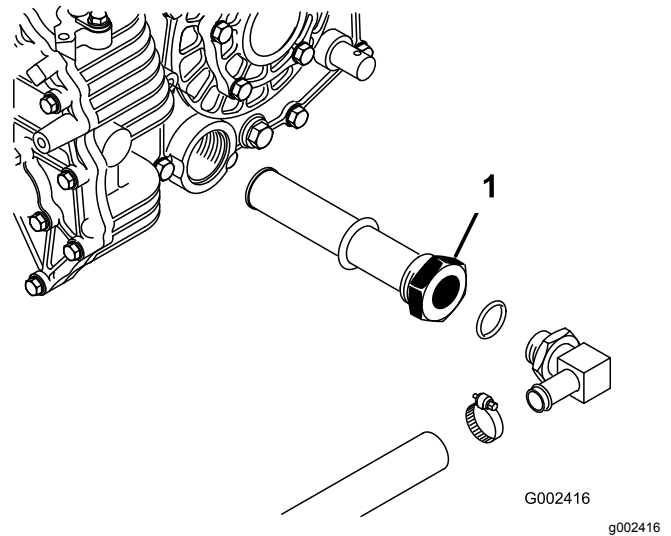

Figure 67
3. Note the orientation of the hydraulic hose and 90° fitting connected to the strainer on the side of the reservoir (Figure 67).